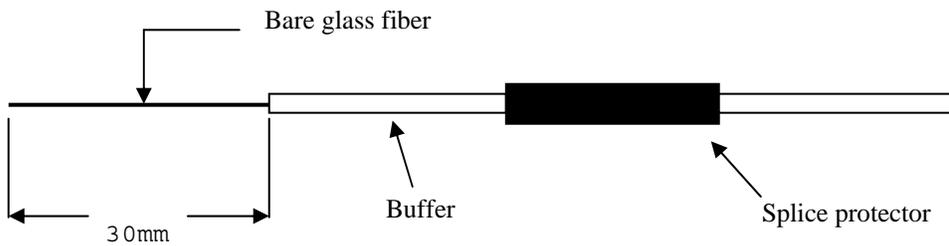

Figure 19 – Fiber Stripping
Step 3 – Strip (remove) approximately 30mm (1.2 in) of the buffer from the end of the fiber using the buffer strip tool. Remove the buffer and coating in small sections approximately 0.25 inch at a time. Strip the fiber down to the bare glass (See Figure 19 below).